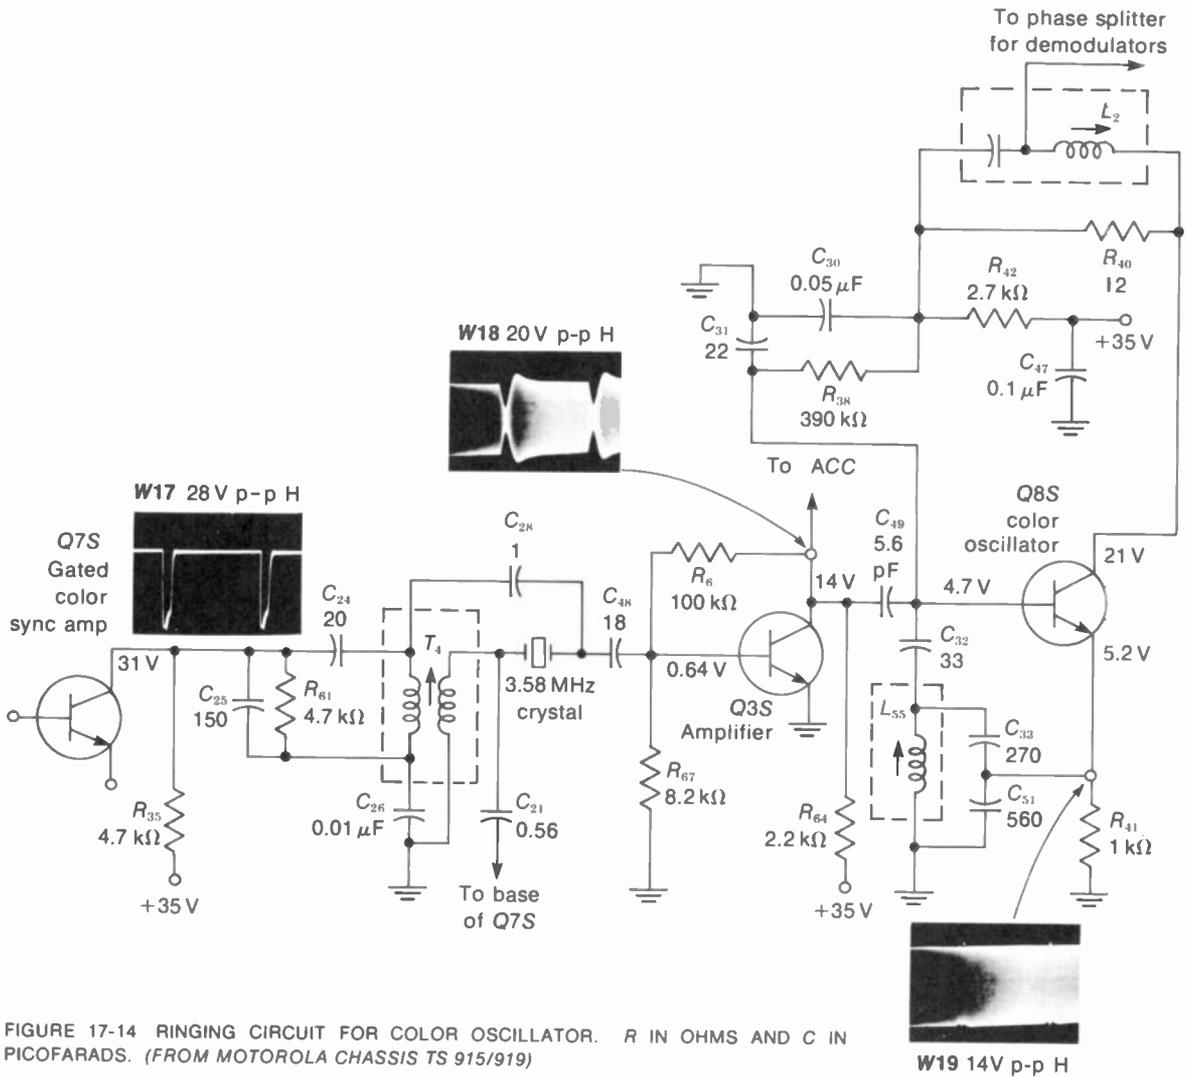

FIGURE 17-14 RINGING CIRCUIT FOR COLOR OSCILLATOR. R IN OHMS AND C IN PICO FARADS. (FROM MOTOROLA CHASSIS TS 915/919)
**Ringing circuit for color oscillator.** This method can be used with tubes or transistors, but a transistorized circuit is shown in Fig. 17-14. The separated burst signal from Q7S shock-excites the 3.58-MHz crystal. This output is amplified by Q3S to drive Q8S which is a Colpitts oscillator circuit.